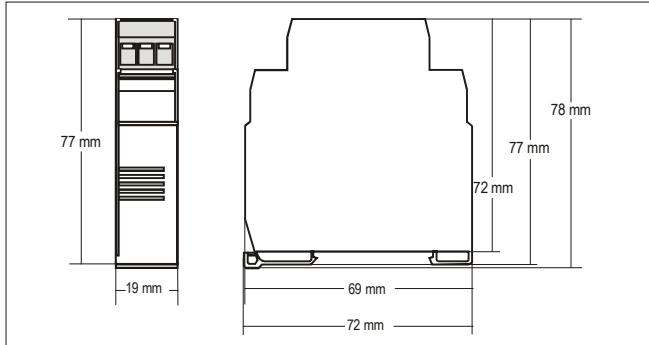

Figure 4 – TxRail dimensions
The TxRail transmitter is intended for DIN rail mounting. Its drawing is presented in figure 4.
**Housing:** ABS plastic. Dimensions: Refer to figure 4.